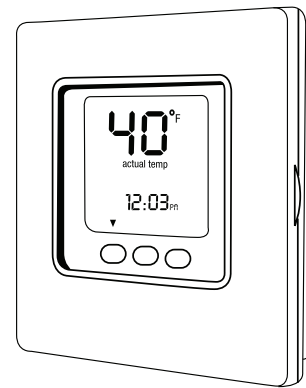

Fig. 15 - Lowest Temperature Setting
1. Set your room thermostat to the lowest temperature setting. See Fig. 15.